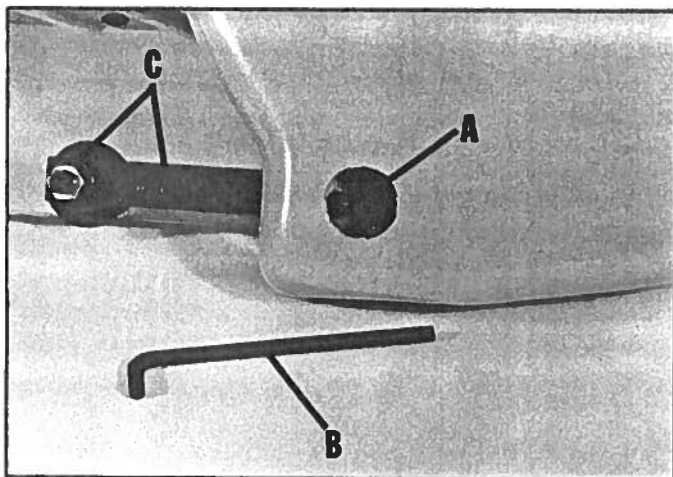

Fig 27
2. Release blade tension. Loosen screw (A) Fig. 27, with wrench (B) and remove blade guide roller assembly (C). Remove blade guide roller assembly from other wheel in the same manner. Then re-apply tension to the blade.